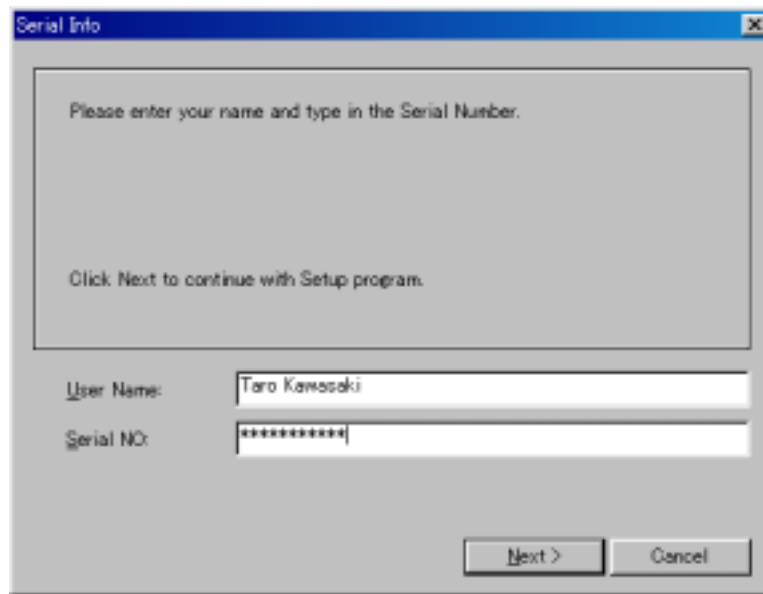

Fig. 4 User Information Registration / Authentication (Sample)
- (4) Next the Serial Information screen shown in Fig. 4 appears.